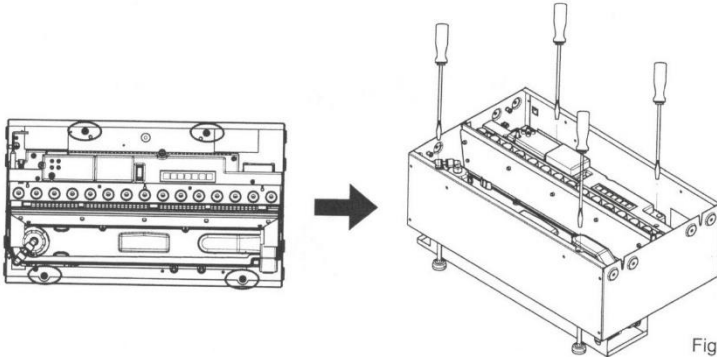

Fig. 8
2. Ensure that the product is at the correct height to suit the installation and ensure it is adequately level. This can be done by adjusting the adjustable feet with a flat head screwdriver (Fig. 8).